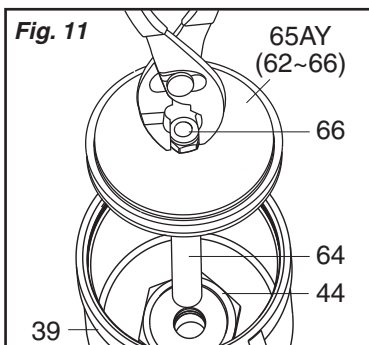
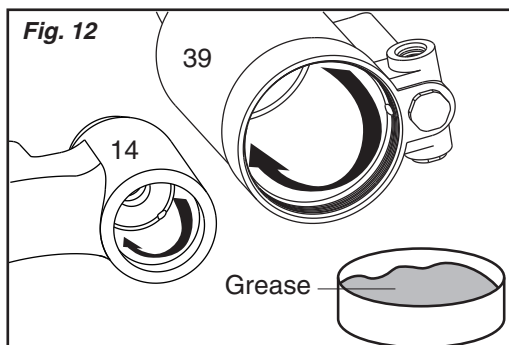
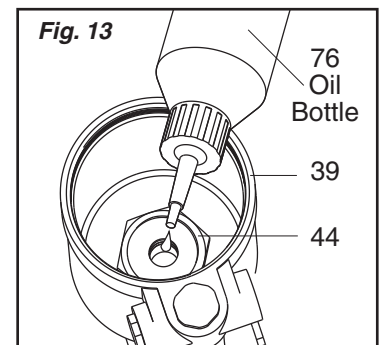

Fig. 11
Fig. 12
Fig. 13
2. Use the wrench 7222 (74) to unscrew the air cylinder end cap (68) & o-ring (67), use a pair of pliers to clamp the air piston lock nut (66) and slowly pull out the air piston assembly (65AY) in a straight line (Fig. 11). **Be careful not to scratch the air piston rod (64) and the inner wall of air cylinder (39). Drain the dirty hydraulic oil out of the tool through the air cylinder (39).**
3. Clean and grease the inner wall of air cylinder (39) (Fig. 12), and also clean and grease the air piston ring (63).
4. **Put the tool upside-down, and use the oil bottle (76) loaded with new hydraulic oil to refill into the oil cylinder (14) through the air cylinder (39) until oil is flushed with the upper oil cylinder o-ring (12) (Fig. 13). Make sure not to overfill oil, and rest for a while until the oil stops releasing air bubbles.**
5. Use a pair of pliers to clamp the air piston lock nut (66) and slowly plug the air piston assembly (65AY) in a straight line into the oil cylinder (14) through the oil cylinder lock nut (44) (Fig. 11). Then, depress the air piston assembly (65AY) 2 ~ 3 times. Repeat above steps to check again the oil level, and add a little hydraulic oil if necessary, but not to add too much oil. Finally reassemble the air cylinder end cap (68) & o-ring (67) with the wrench 7222 (74).
- After considerable times of operation, oil cylinder (14) and air cylinder (39) as well as their O-rings and back-up rings, return springs (20 & 21), also the hydraulic oil should be replaced.
1. **Disconnect the tool from the compressed air supply system, and then pull out spent mandrel container (35) from rear end cap (31).**
2. Use the wrench 2710 (75) to unscrew the head (2), and use the wrench 7222 (74) and wrench 2710 (75) to separate the complete quick-change type jaw case assembly (3AY) from the front male thread of oil piston (17).
3. Use the wrench 7222 (74) to unscrew the air cylinder end cap (68) & o-ring (67), then use a pair of pliers to clamp the air piston lock nut (66) and slowly pull out the air piston assembly (65AY) in a straight line (Fig. 11). **Be careful not to scratch the air piston rod (64) and the inner wall of air cylinder (39). Drain the dirty hydraulic oil out of the oil cylinder (14) through the air cylinder (39).**
4. **Check and replace the worn buffer ring (62), air piston ring (63), and air cylinder end cap o-ring (67). Also check and replace the worn or scratched air piston rod (64) and the damaged air piston (65). Finally, check the air piston lock nut (66) and lock it firmly.**
5. Firstly, press the lock ring of vacuum on/off switch (37) around the mini air hose (38) and pull out the mini air hose (38). Use a pair of pliers to lock the mini air fitting (36), use another a pair of pliers to unscrew a lock nut and put out the mini air hose (38); now the mini air hose (38) is dismantled, but the mini air fitting (36) is still fixed to the rotor (27). Use a long stem socket wrench 35 mm to unscrew the oil cylinder lock nut (44) along with a lock nut o-ring (43), and then use a suitable diameter pin carefully to punch out the lever pin (51) to separate the trigger lever (47) from air cylinder (39). Carefully use a hex wrench 3 mm to unscrew the positioning screw (40), and then vertically pull the oil cylinder (14) out of the air cylinder (39) with care, the lock nut o-ring (43) is jumped out from the thread of oil cylinder (14). Check and replace the worn or scratched air cylinder (39) on the inner wall, also check and replace the worn or damaged air inlet end cap o-ring (69), vacuum on/off switch (37) and mini air hose (38). Pay special attention the oil cylinder lock nut (44) should be replaced after repeated fastening 3 ~ 4 times. The lock nut o-ring (43) should be replaced each time after dismantling oil cylinder lock nut (44).
6. Pull out the spent mandrel container (35), then remove rear end cap o-rings (34) and spent mandrel safe protector & o-rings (33 & 32). Use a wrench 27 mm to dismantle the rear end cap (31) to remove vacuum valve assembly (29AY) from oil cylinder (14), remove hanging bracket o-ring (22) and hanging bracket (23) from the front end cap (24), take out the large & small return springs (20 & 21), and slowly press the threaded end of oil piston (17) to take out the oil piston assembly (17AY) from the rear end of oil cylinder (14). Pay special attention to dismantle the oil cylinder (14), do not let the strong force of large & small return springs (20 & 21) jump out to hurt people. Be careful not to scratch the rod of oil piston (17) and the inner wall of oil cylinder (14). Check and replace the worn or damaged o-rings (22, 32, 34) of the above-mentioned parts (23, 33, 35).
7. Use a wrench 30 mm and a wrench 27 mm to dismantle the front end cap (24) and the rear end cap (31), take out rotor (27) from the front end cap (24), check and replace the worn front end cap middle o-rings (25) and front end cap rear o-ring (26). Use a socket wrench 14 mm and a wrench 27 mm to unscrew the vacuum valve (29) from the rear end cap (31), check and replace the worn vacuum valve front o-ring (28) and vacuum valve rear o-ring (30).
8. Check and replace the worn oil cylinder o-rings (12) and oil cylinder back-up rings (13) in the front part and lower part of oil cylinder (14), as well as the oil piston o-ring (18) and oil piston back-up ring (19). Check and replace the worn or scratched oil piston rod (17) and oil cylinder (14). Also check and replace the weak or broken large & small return springs (20 & 21).
9. Clean and grease around the inner walls of oil cylinder (14) and air cylinder (39) (Fig. 12), the oil piston o-ring (18) and air piston ring (63).
10. Reverse above steps to reassemble the vacuum valve (29) back to the rear end cap (31), put rotor (27) back to the front end cap (24), and then use a wrench 30 mm and a wrench 27 mm to fasten the front end cap (24) to the rear end cap (31) firmly.
11. Reverse above steps to reassemble the oil piston assembly (17AY) and large & small return springs (20 & 21) along with hanging bracket (23) and hanging bracket o-ring (22) into the rear end of oil cylinder (14), carefully depress the vacuum valve assembly (29AY) to screw into oil cylinder (14) firmly, finally install the spent mandrel container (35). **Pay special attention to the strong force of large & small return springs (20 & 21) which might jump out to hurt people.**
12. Reverse above steps to reassemble the oil cylinder (14) and air cylinder (39) together by aligning and using a hex wrench 3 mm to fasten the Positioning Screw (40) carefully, put a new lock nut o-ring (43) onto the thread of oil cylinder (14) and carefully move it (43) down to touch the top of air cylinder (39), and then fasten the oil cylinder lock nut (44) firmly with a long stem socket wrench 35 mm. And then reassemble the trigger lever (47) back to the air cylinder (39) by punching the lever pin (51) into the original pin holes carefully. Plug the mini air hose (38) back to the mini air fitting (36) and fasten lock nut firmly to hold the mini air hose (38); fasten the vacuum on/off switch (37) back to the air inlet end cap (70) and plug another end of mini air hose (38) back to the vacuum on/off switch (37).
13. Put the tool upside-down, and use the oil bottle (76) loaded with new hydraulic oil to refill into the oil cylinder (14) through the air cylinder (39) until the oil is flushed with the upper oil cylinder o-rings (12) (Fig. 13). Make sure not to overfill oil, and rest for a while until the oil stops releasing air bubbles.
14. Use a pair of pliers to clamp the air piston lock nut (66) and slowly plug the air piston assembly (65AY) in a straight line into the oil cylinder (14) through the oil cylinder lock nut (44) of air cylinder (39) (Fig. 11), then depress the air piston assembly (65AY) 2 ~ 3 times. Finally, use a wrench 7222 (74) to fasten the air cylinder end cap (68) & o-ring (67).